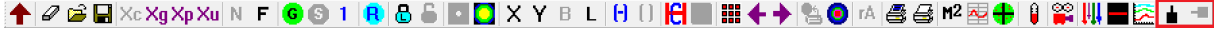

Figure 3: Icons for closing (left) and opening shutter (right) highlighted by red box.
9. The shutter will close if the impinging power saturates the sensor. To re-open the shutter, use the icon in the icon bar as shown in Figure 3.